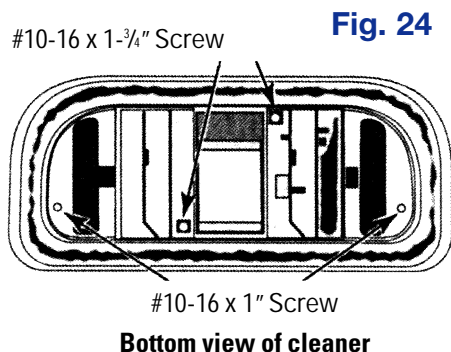

Fig. 24
8. Install the cleaning head in the body. Fasten the cleaning head in place with 4 screws (2 long 2 short - see Figure 24).